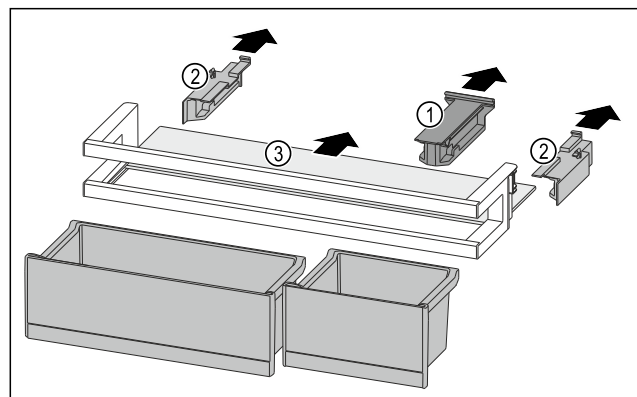

Fig. 242
- ▶ Pull off the holding part Fig. 242 (1).
- ▶ Pull off the side parts Fig. 242 (2).
- ▶ Remove the shelf Fig. 242 (3).